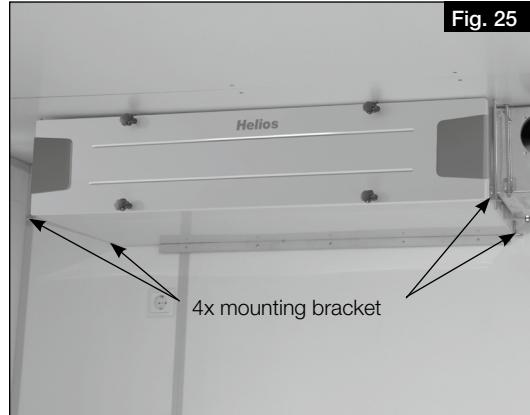
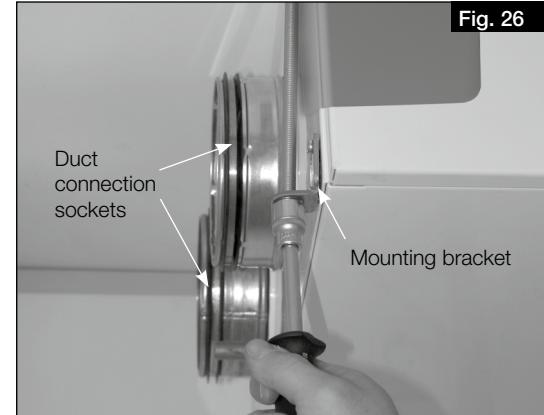

Fig. 25
Fig. 26
2. Attach mounting bracket with anti-vibration dampers (4x; included in delivery) to the lower side walls with metal screws (see Fig. 25 and Fig. 26).
3. Mount the unit to the ceiling with long M8 threaded rods (see Fig. 26).